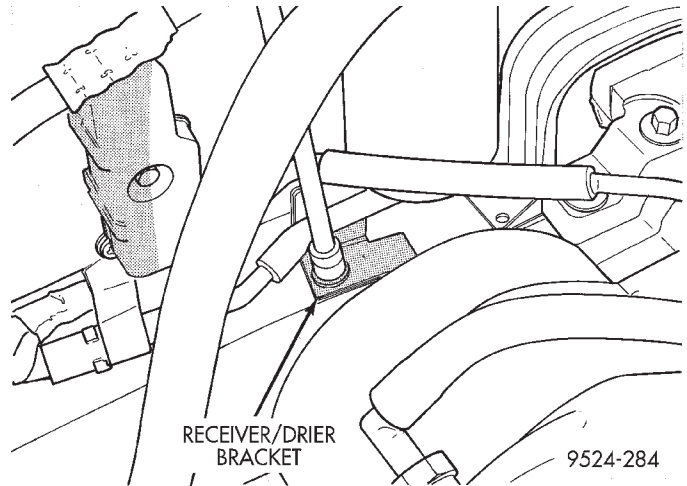

Fig. 54 Receiver/Drier Bracket
- (4) Remove filter/drier bracket bolt at base of filter/drier (Fig. 54).
- (5) Cap liquid line and condenser threaded fitting while system is open to prevent moisture from entering system.